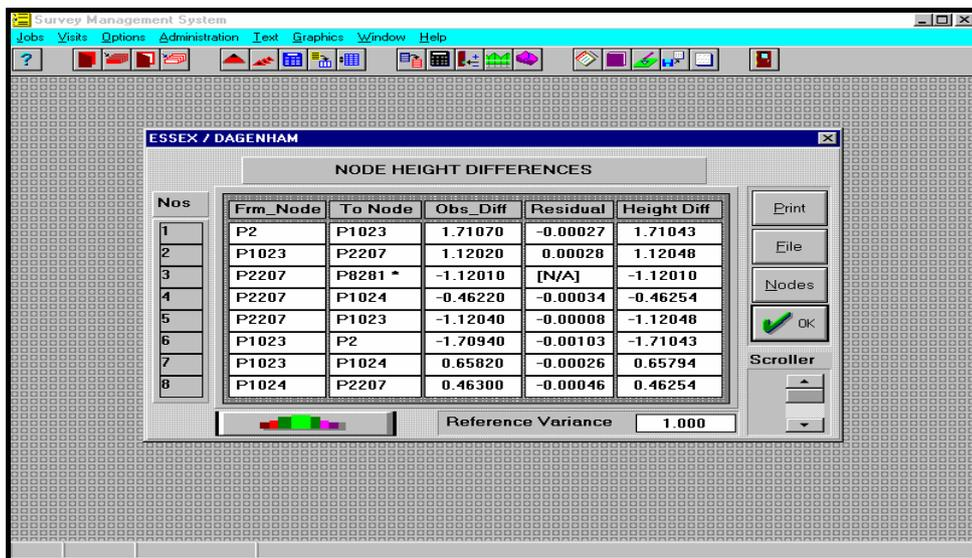

Fig 4.9a
- Select Node Information to list results, Fig 4.9a.